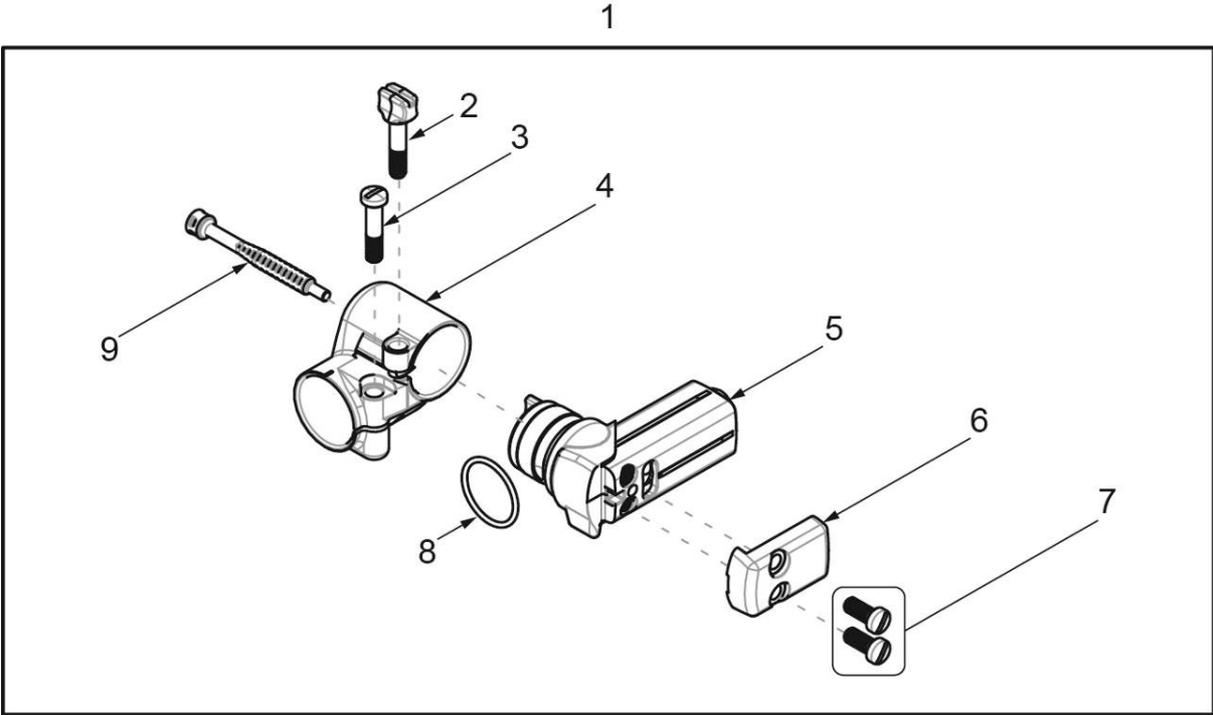

Figure 55: Coil Pivot Kit Parts
- a. The coil pivot is a line replaceable unit and Figure 55 illustrates the major parts. Each part of the coil pivot can be ordered individually or as a 3004-0045 Coil Pivot Kit, which includes all parts shown in Table 3